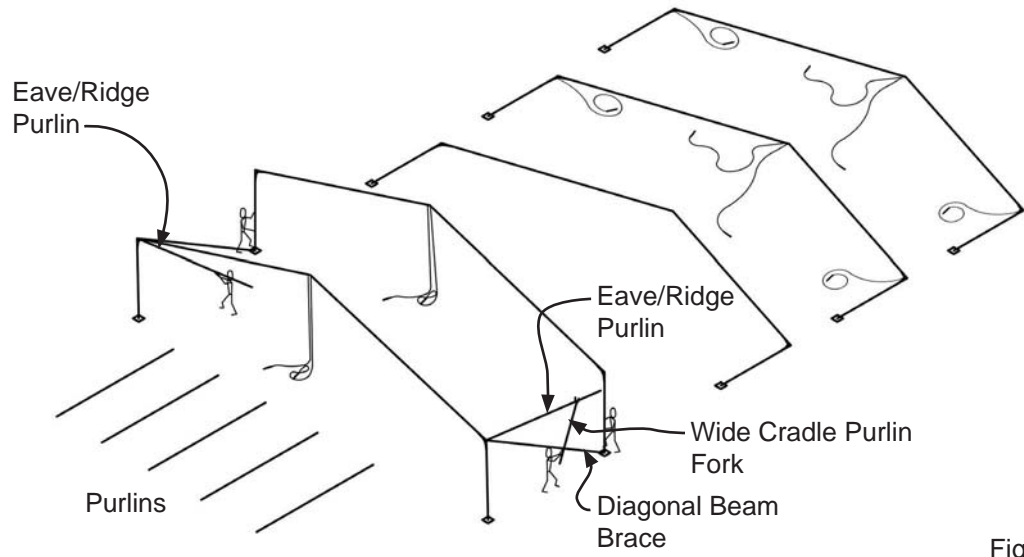

Figure 3.3a
3.3.2 Raise the second arch as described in steps 3.2.1 for the first arch. When the arch is vertical, one installer on each side must swing the free end of the eave purlin, using the wide cradle purlin fork (supplied in the installation kit), to drop the eave hook into the bracket at the ends of the rafters on the second arch as shown in Figure 3.3a. Use the same technique and purlin fork to install the ridge purlin into the brackets at the ridges. Use the roof cables to help sway the arch and align the purlin hook with the ridge bracket.